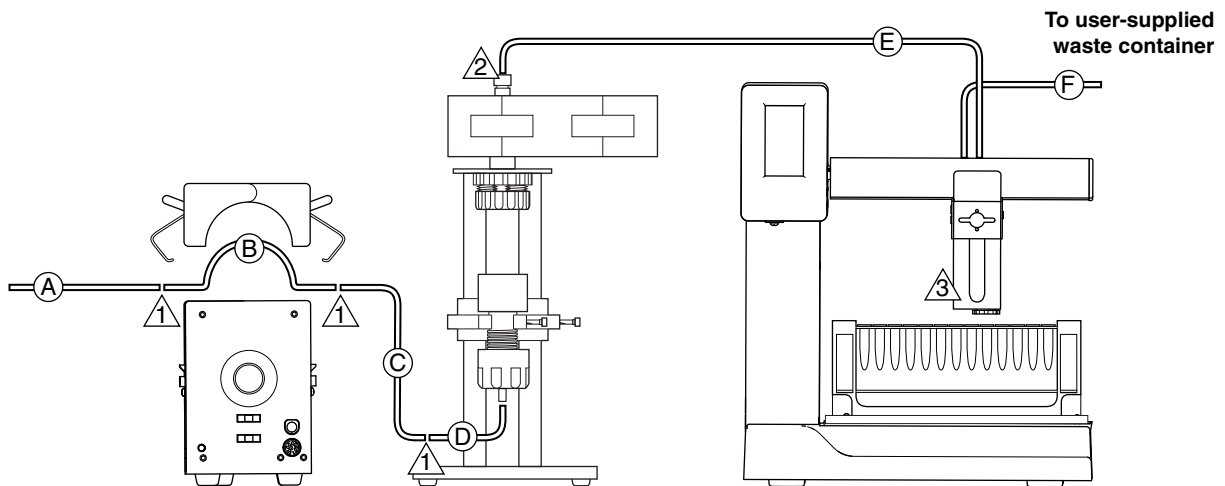

Figure 2-3 System tubing connections with Foxy R1 fraction collector
(Figure 2-3)*
10. Refer to Figure 2-3, Table 2-1, and Table 2-2 and complete the plumbing connections.